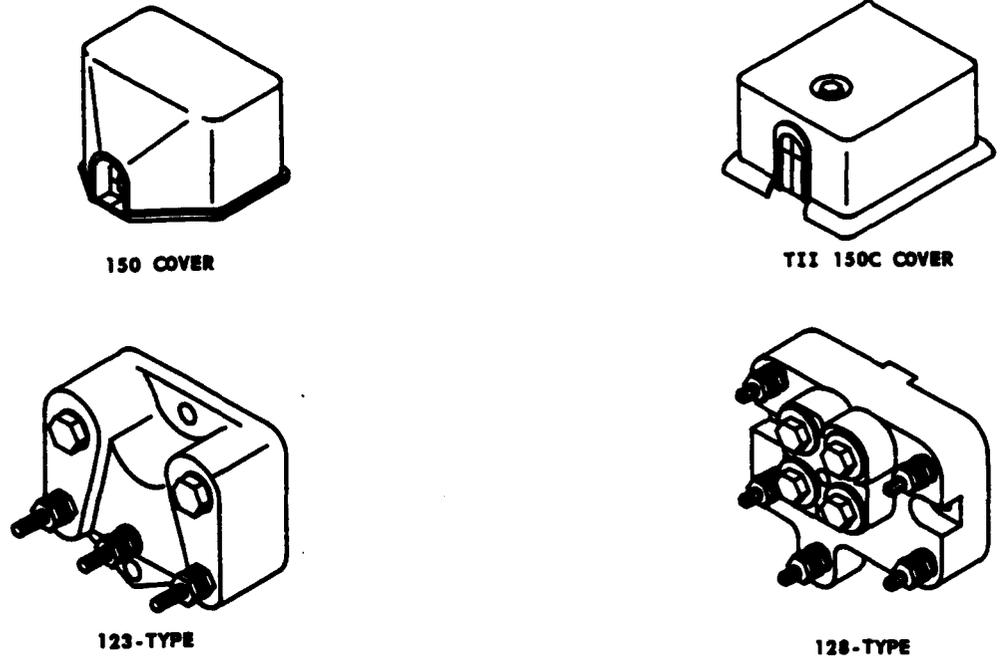

Figure 12. Identification of Protector Cover and Protector Type
5.03 Identify the protector configuration to be retrofitted (Figure 12).